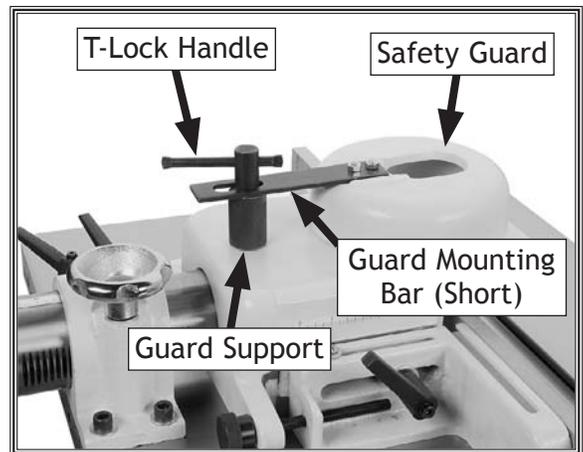

Figure 44. Safety guard installed on the fence assembly.
2. Thread and hand-tighten the guard support into the threaded hole on top of the fence assembly (see **Figure 44**).
3. From underneath the safety guard, insert two 1/4"-20 x 5/8" flat head screws into the holes that are in the center of the guard, then secure the shorter guard mounting bar to the safety guard with two 1/4"-20 hex nuts, as shown in **Figure 44**.